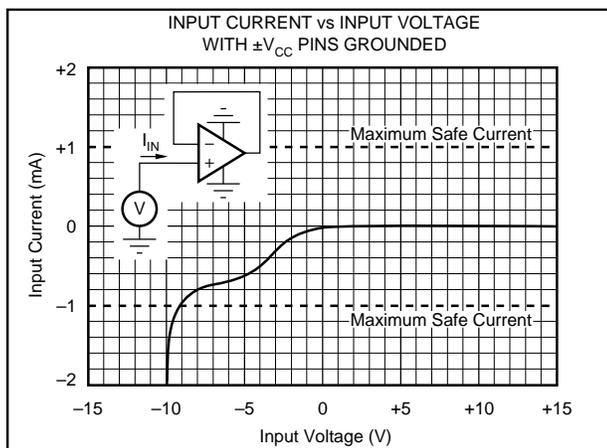

FIGURE 2. Input Current vs Input Voltage with $\pm V_{CC}$ Pins Grounded.
NOTES: (1) Packages must be derated based on $\theta_{JC} = 30^\circ\text{C/W}$ or $\theta_{JA} = 120^\circ\text{C/W}$. (2) For supply voltages less than $\pm 18\text{VDC}$ the absolute maximum input voltage is equal to: $18\text{V} > V_{IN} > -V_{CC} - 8\text{V}$. See Figure 2. (3) Short circuit may be to power supply common only. Rating applies to +25°C ambient. Observe dissipation limit and T_J .
Unlike BIFET amplifiers, the *Difet* OPA404 requires input current limiting resistors only if its input voltage is greater than 8 volts more negative than $-V_{CC}$. A $10k\Omega$ series resistor will limit the input current to a safe value with up to $\pm 15V$ input levels even if both supply voltages are lost. (See Figure 2 and Absolute Maximum Ratings).